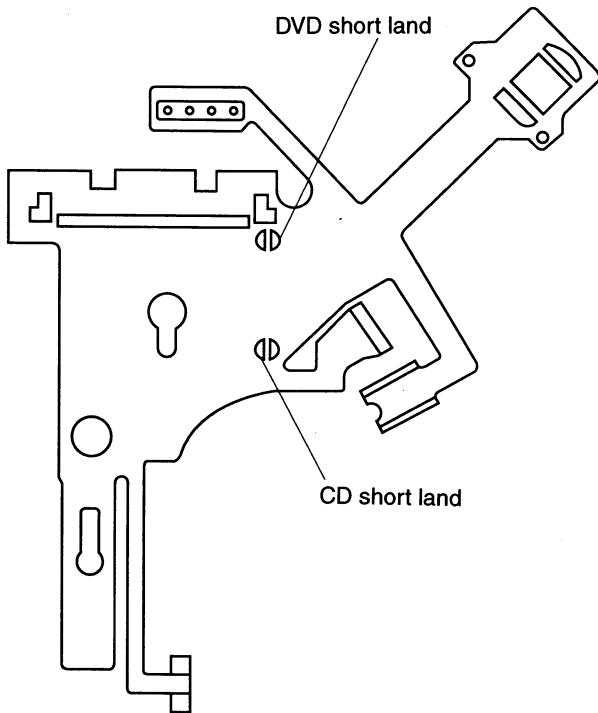

**Fig. 4**
- 5) Install the MD block ass'y as shown in Fig. 4.
**Note:** Place a cushion at the position (A).